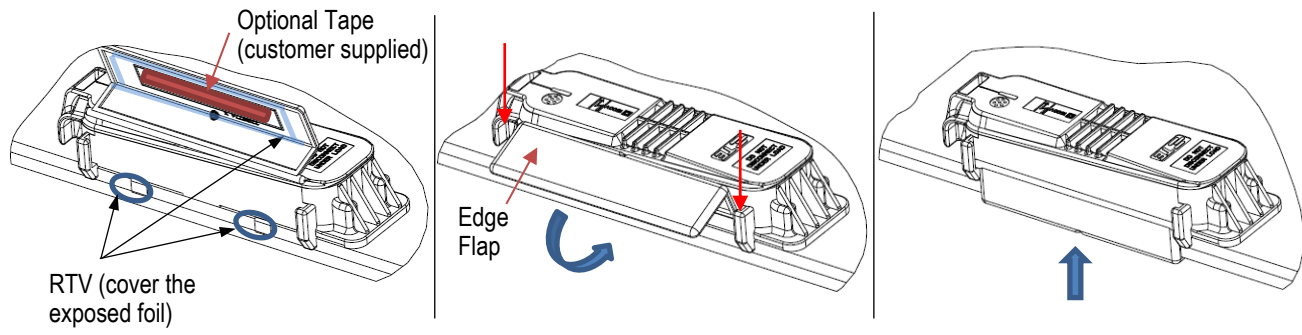

Figure 6
9. For Glass-Glass mounted junction boxes, attach the edge flap using the following procedure shown in Figure 6: